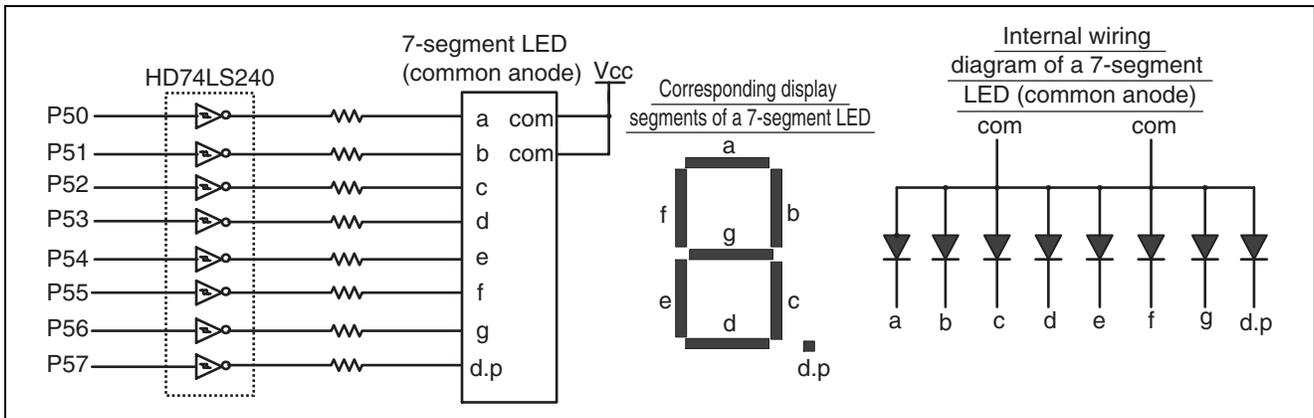

Figure 6 Connection and Internal Connections of 7-Segment LED
1. Figure 6 is a block diagram of the H8/38024 functions used in this task. Table 2 lists the function allocations.
2. Figure 6 shows how the 7-segment LED used in this task is connected. A high output from port 5 lights the corresponding segment of the LED, as shown in the figure. Table 3 lists the relationships between the port 5 outputs and the LED display.